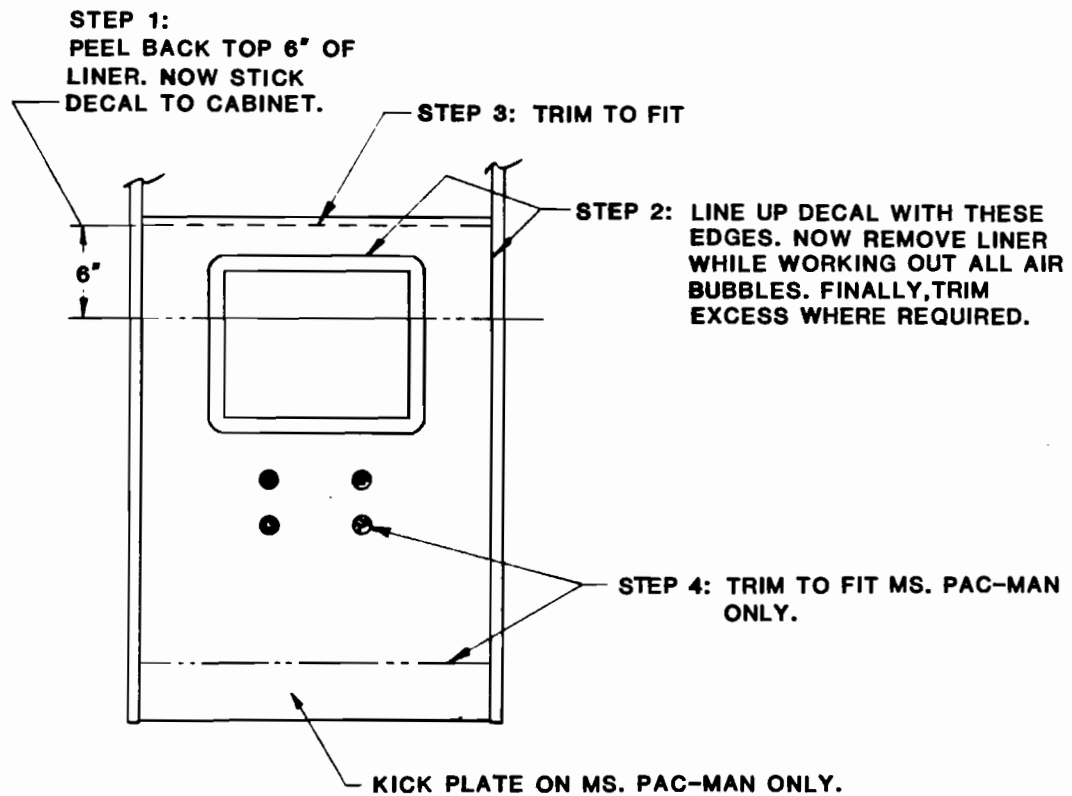

Figure 11
2. Install the Front Decal* as indicated in Figure 11.